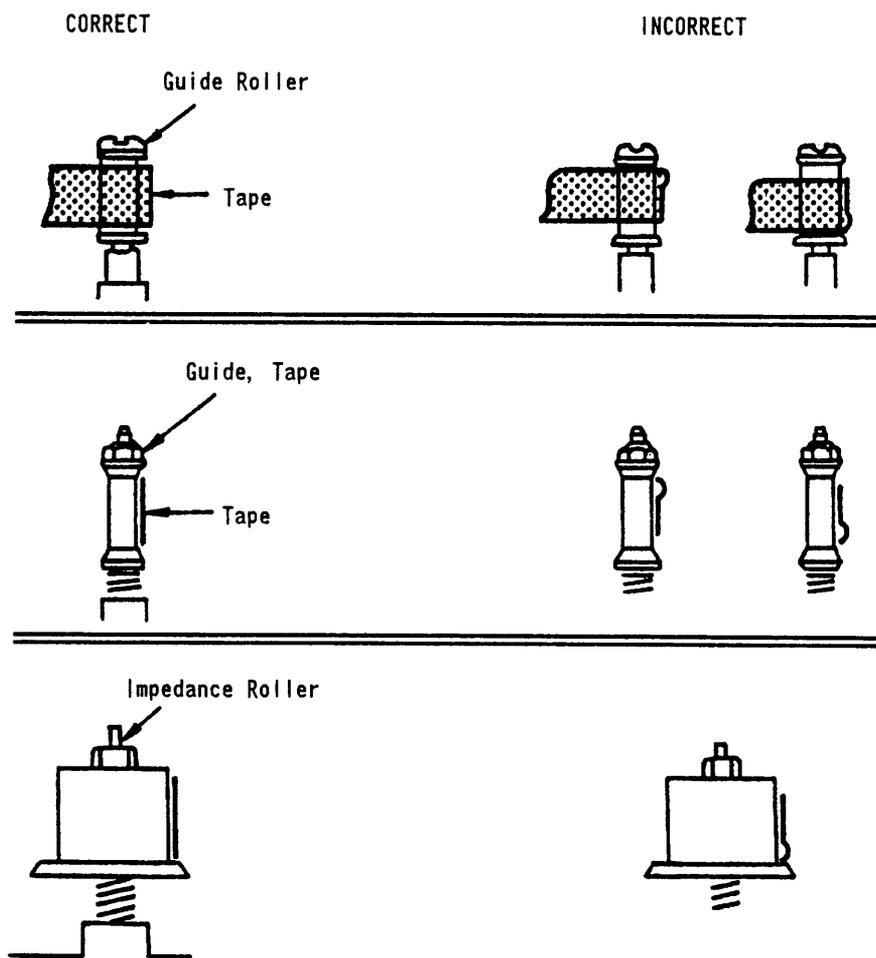
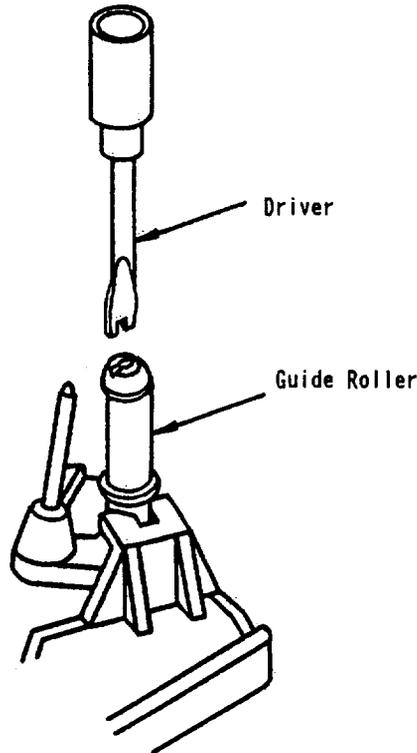

Fig. 2-3
Fig. 2-5
5. During loading, play and unloading, observe the tape at the supply and take-up guide rollers, tape guide and impedance roller. Confirm that there is no curling or creasing etc., as shown in Fig.2-3.
7. Next, adjust the guide roller height. Insert the adjustment driver into the guide roller top. (Refer to Fig. 2-5.) Adjust the height by turning the driver slightly so that the tape runs on the guide roller as shown in Fig. 2-3, and the lower edge of the tape runs along the lead surface of the cylinder.